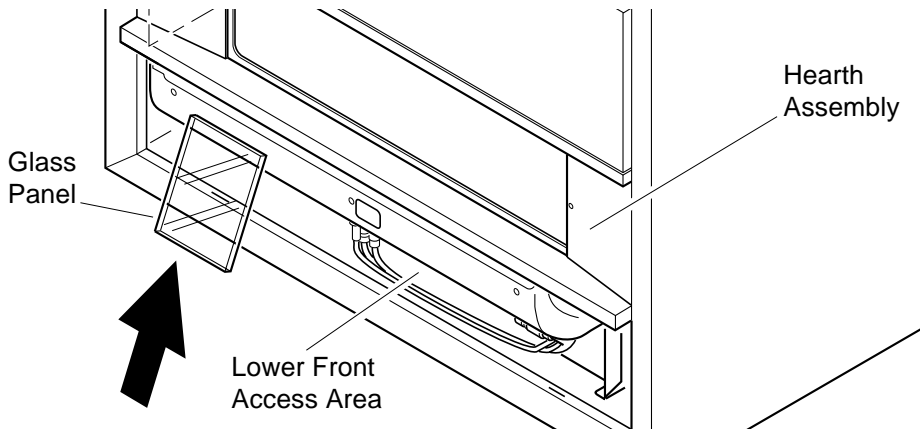

Figure 10 - Inserting Glass Panels
4. Carefully insert one glass panel up through lower front access area (see Figure 10, page 15).
5. Carefully slip glass panel behind hearth assembly (see Figure 10, page 15).